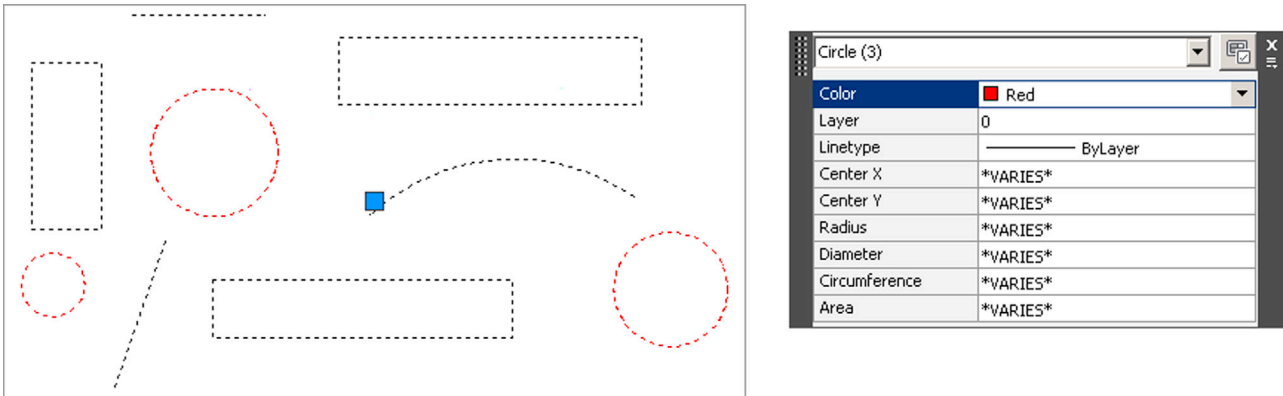

FIGURE 7.34 Color change to circles in group.
Drop down the top menu and you see a breakdown of the group, object by object. There are three rectangles (polyline), two lines, one arc, and three circles, for a total of nine objects. Select Circle (3) in the menu and the palette shows only the properties of the circles. Go ahead and change the color to red and observe the result (Fig. 7.34).